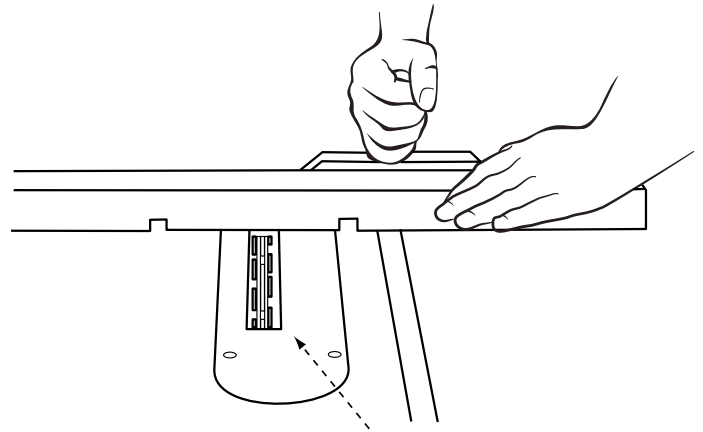

FIGURE 33
- The accessory dado head set throat plate, shown in Figure 33, must be used in place of the standard throat plate. Be sure the throat plate is level to the table before you proceed.